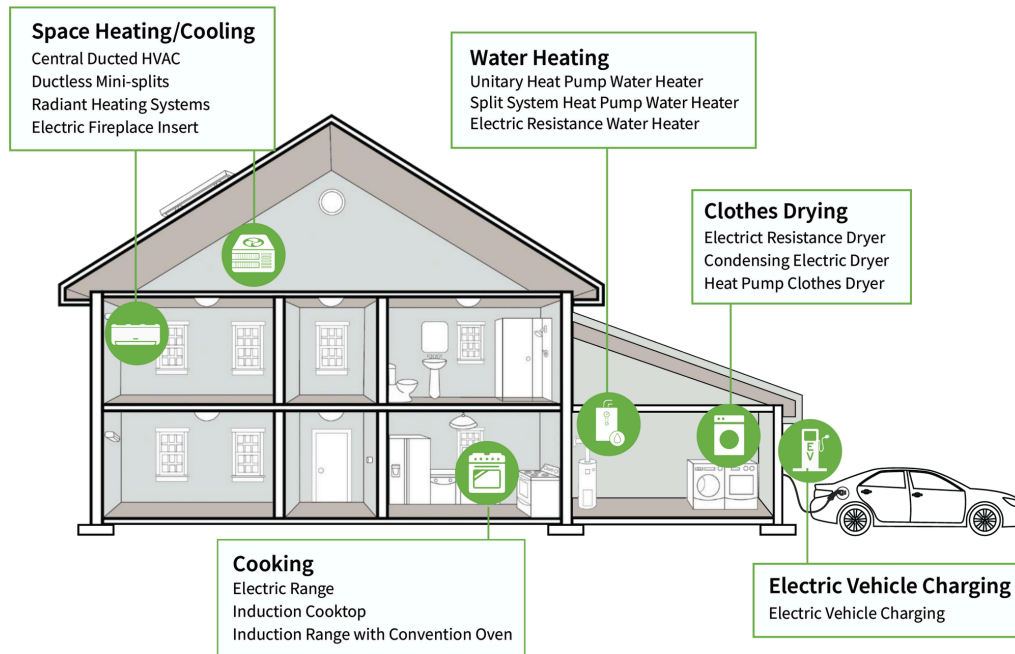

Figure 3: Key Load Reduction Technologies
Residential electrification efforts are focused on space heating and cooling, water heating, cooking, clothes drying, electric vehicle (EV) charging and energy management systems (EMS). Figure 3 provides a visual summary of many of the appliance options available to customers when replacing gas burning models.